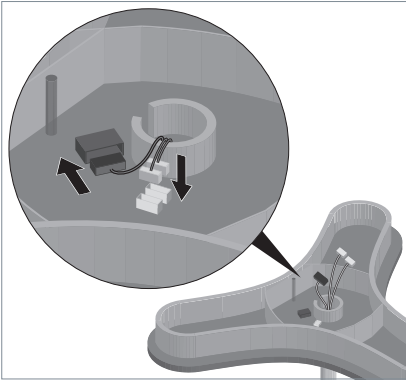

Fig. 7: Connecting the light head.
- ▶ Plug the large plug and the two small plugs into the matching sockets in the light head, see Fig. 7.